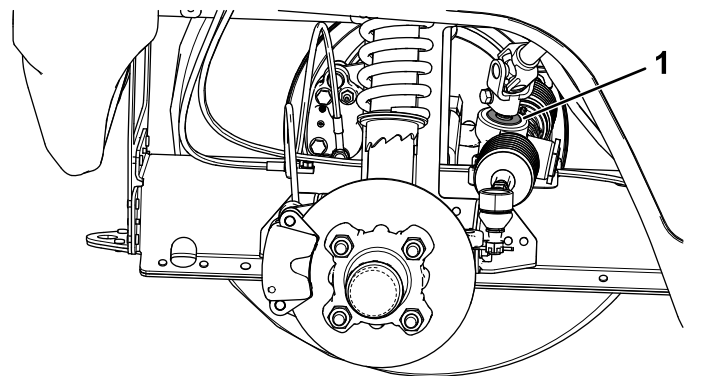

Figure 57
- Important:** Inspect the condition and security of the pinion-shaft seal (Figure 57).